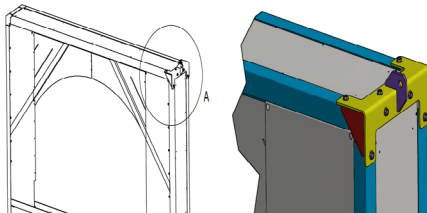
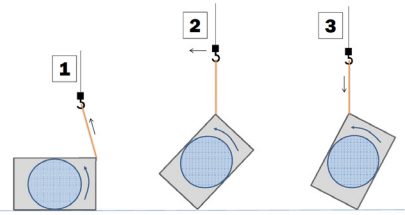

Fig. 15 Handle for lifting the exchanger transported in side position
Fig. 16 Method of lifting the exchanger transported in a side position
a) for air handling units (small where feet may be present) the support area must not be smaller than 200x200 and located in all places where these elements occur Fig. 15, Fig. 16.